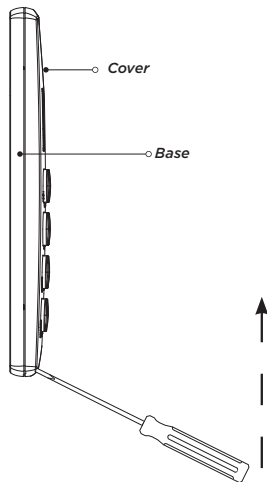

Figure 2: Separate the Keypad Housing
1. Insert a flat screwdriver into one of the slots on the bottom of the keypad and gently lift the screwdriver handle toward you while pulling the halves apart. See Figure 2. Repeat with the other slot.